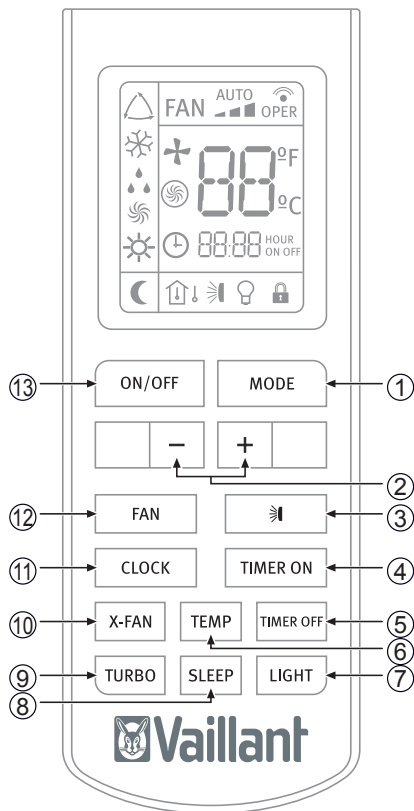

Fig. 7.1 Overview of the buttons.
- Press the ON/OFF button (see Figure 7.1) to check that the batteries are correctly inserted.